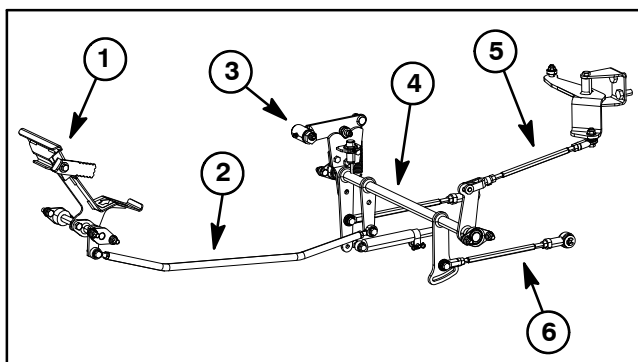

Figure 52
The Groundsmaster 360 transmission includes two (2) piston pumps. The swash plate in each of the piston pumps is controlled by the operator traction pedal through the traction linkage assembly. Correct assembly of the traction linkage assembly (Fig. 52) is required for proper traction circuit operation.